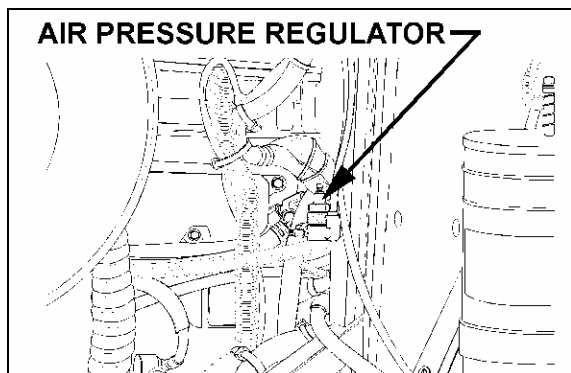

FIGURE 23: AIR PRESSURE REGULATOR (TYPICAL) 07037
21. Adjust the retarder pressure to 80 ± 3 psi with the air pressure regulator. For more information refer to Section 12, "BRAKE AND AIR SYSTEM", under heading "AIR PRESSURE REGULATOR". The air pressure regulator is located at back of engine compartment, on R.H. side (Fig. 23) or in the R.H. side rear service compartment.